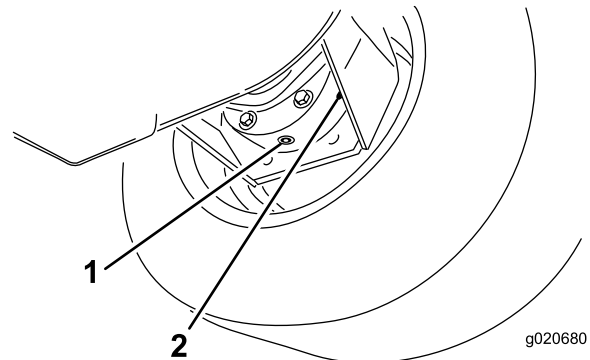

Figure 89
3. Place a drain pan under the brake housing, remove the drain plug and allow the oil to drain (Figure 89).